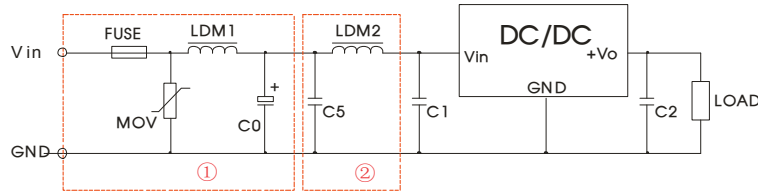

Fig. 5 EMC recommended circuit
Note: Part ① in the Fig. 5 is for EMS test, part ② is for EMI filtering; parts ① and ② can be added based on actual requirement.